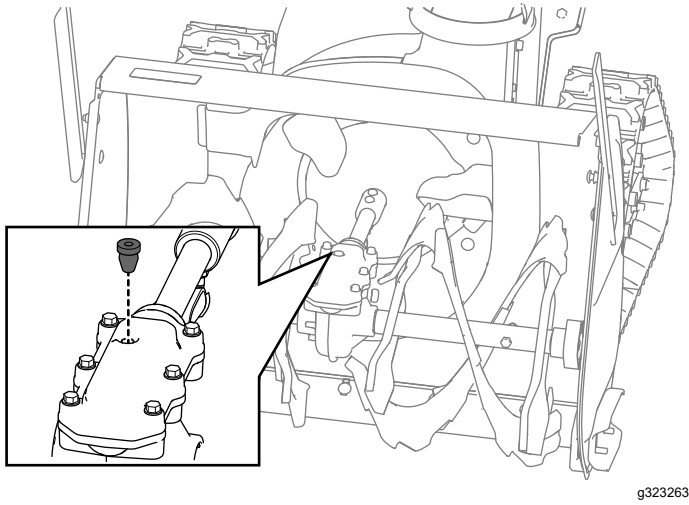

Figure 33
2. Clean the area around the pipe plug and remove the pipe plug from the gearbox (Figure 33).